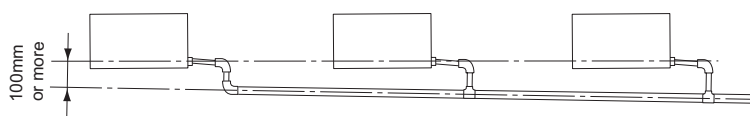

Fig. 12
- If installing central drain piping, install according to Fig. 12.